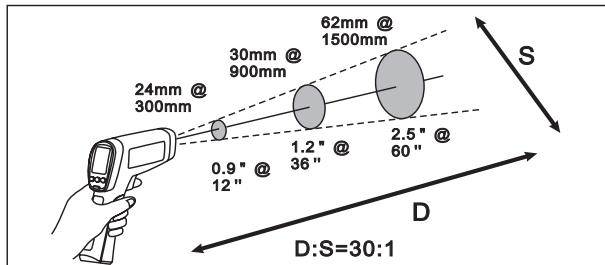

Figure 6. Distance and Spot Size
As the distance (D) from the target being measured increases, the spot size (S) of the area measured by the unit becomes larger. The spot size indicates 90% encircled energy. The maximum D:S is obtained when the Thermometer is 600mm (23.6 in) from the target resulting in a spot size of 20mm (0.79 in). See Figure 6.